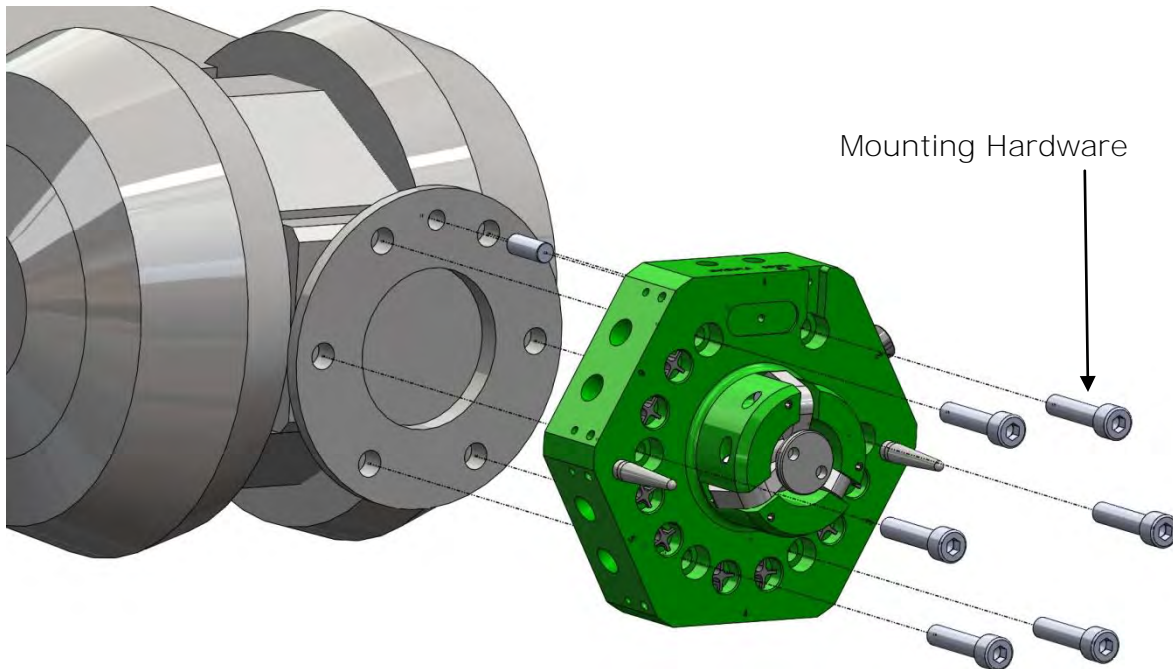

Figure 5.1-1. E100 Robot Adaptor Installation w/ M8 Hardware
1. Locate the Robot Adaptor to the manipulator mounting flange utilizing the locating boss and one (1) M8 locating dowel (Figure 5.1-1).